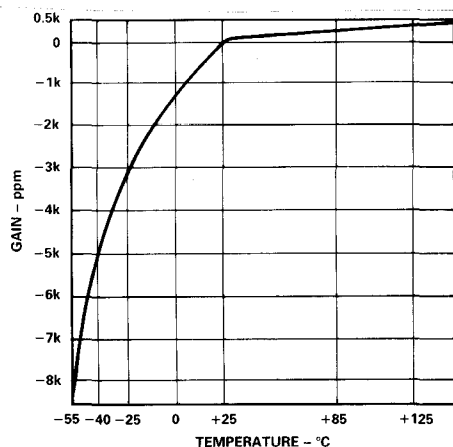

Figure 1. Gain (ppm of Span) vs. Temperature ( $^{\circ}\text{C}$ )
1Refer to Figure 1 for a plot of gain versus temperature.
**Gain Temperature Coefficient.** Figure 1 presents the AD203SN's gain temperature coefficient over the entire  $-55^{\circ}\text{C}$  to  $+125^{\circ}\text{C}$  temperature range.